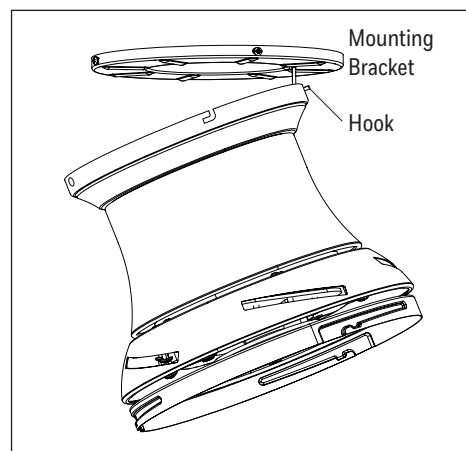

Figure 2.3
3. Raise the fan and place canopy on the hook on the mounting bracket, temporarily leaving hands free for the wiring process (Figure 2.3).